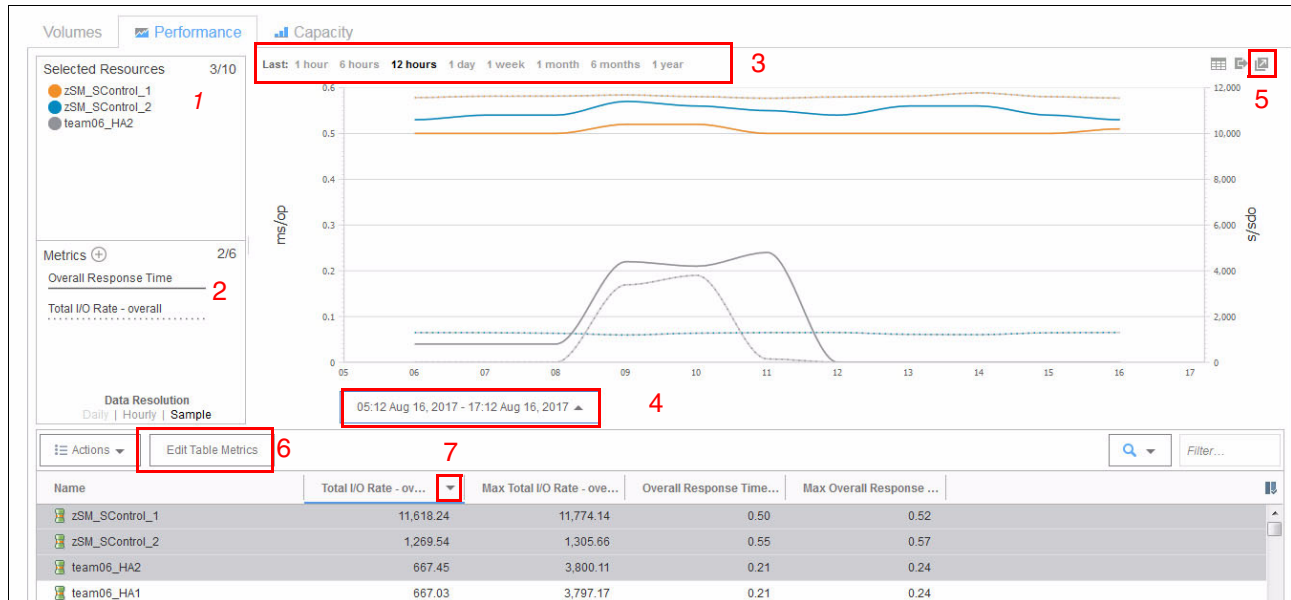

Figure 2-9 Performance chart tangerine
in Figure 2-9, the performance chart shows the performance graphs for the individual volumes (1) and the selected metrics (2). The time frame can be either relative or absolute. The performance graphs can be opened in a new window (5). The URL of the chart being displayed can be bookmarked for future use. The metrics of the table underneath the chart can be selected by clicking **Edit Table Metrics** (6) and can be sorted (7). The selected and highlighted volumes are then shown in the chart.